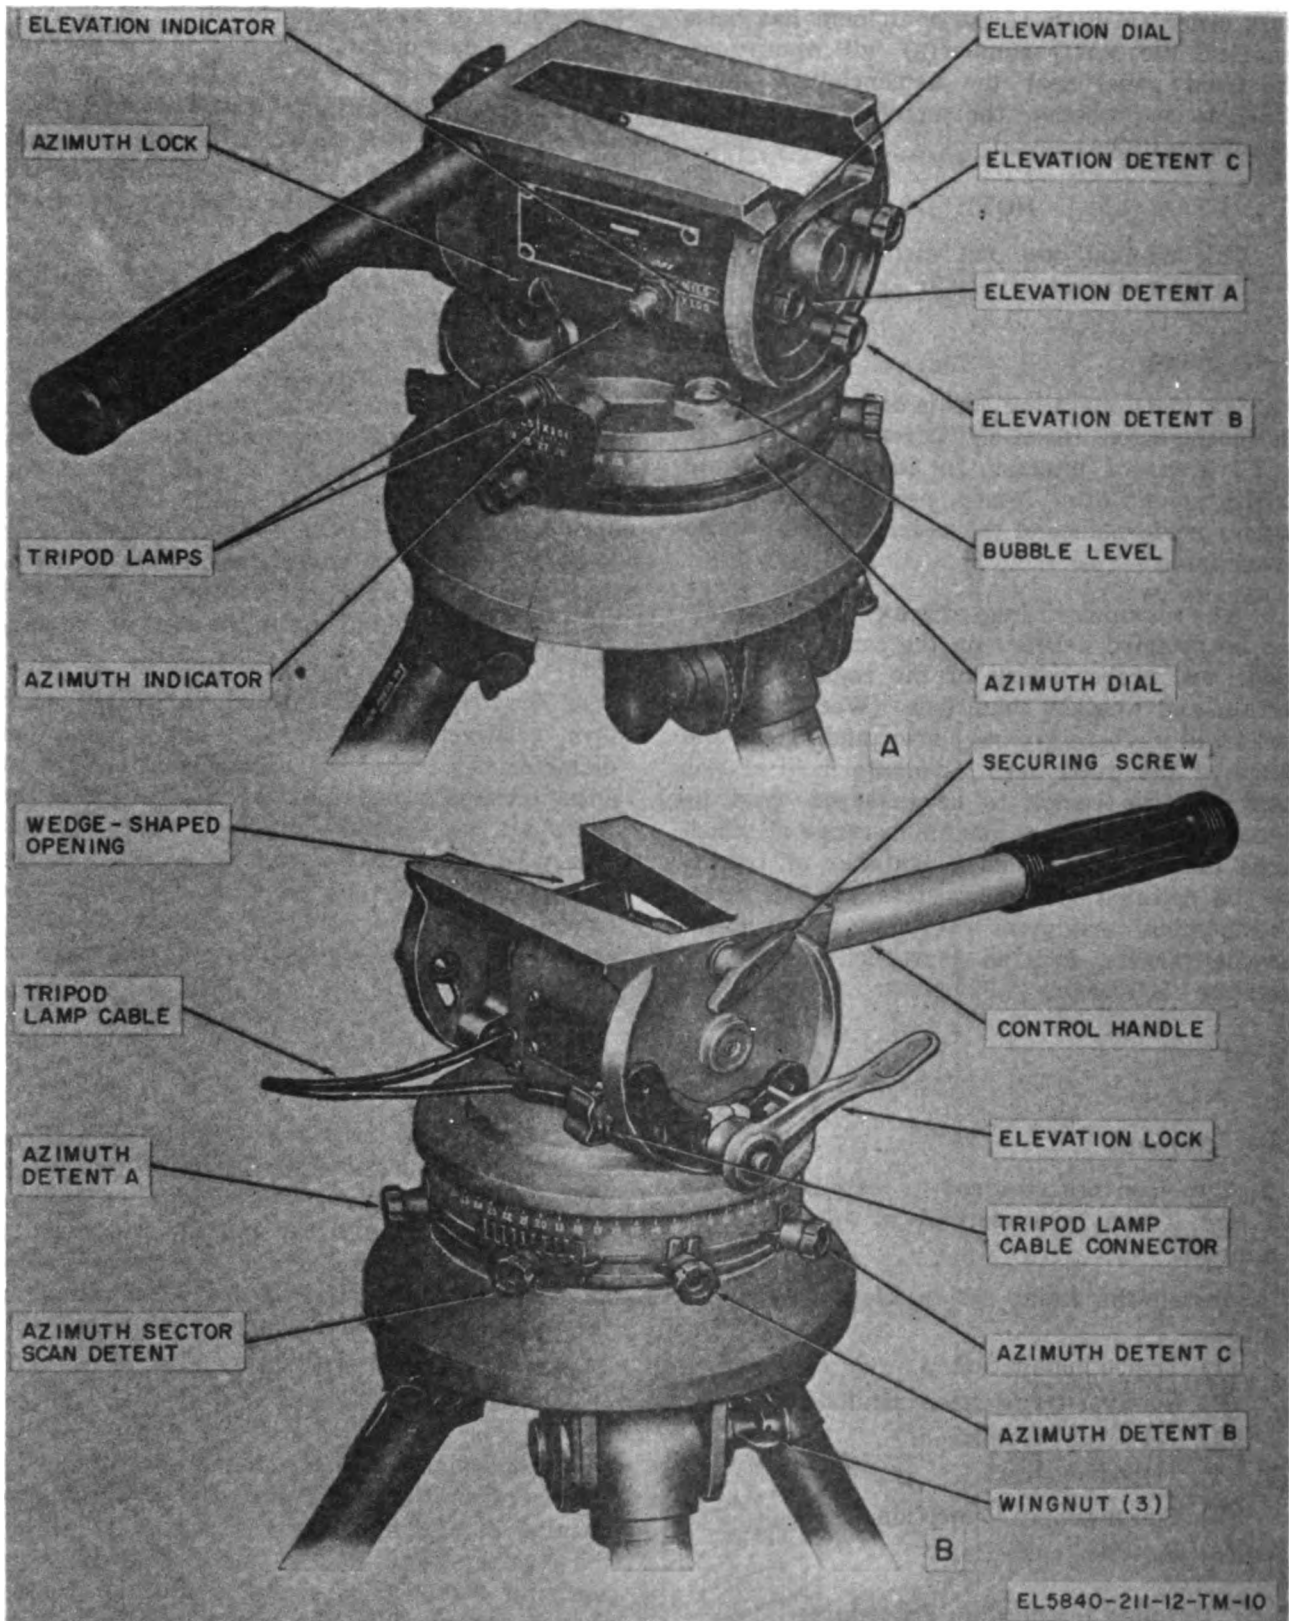
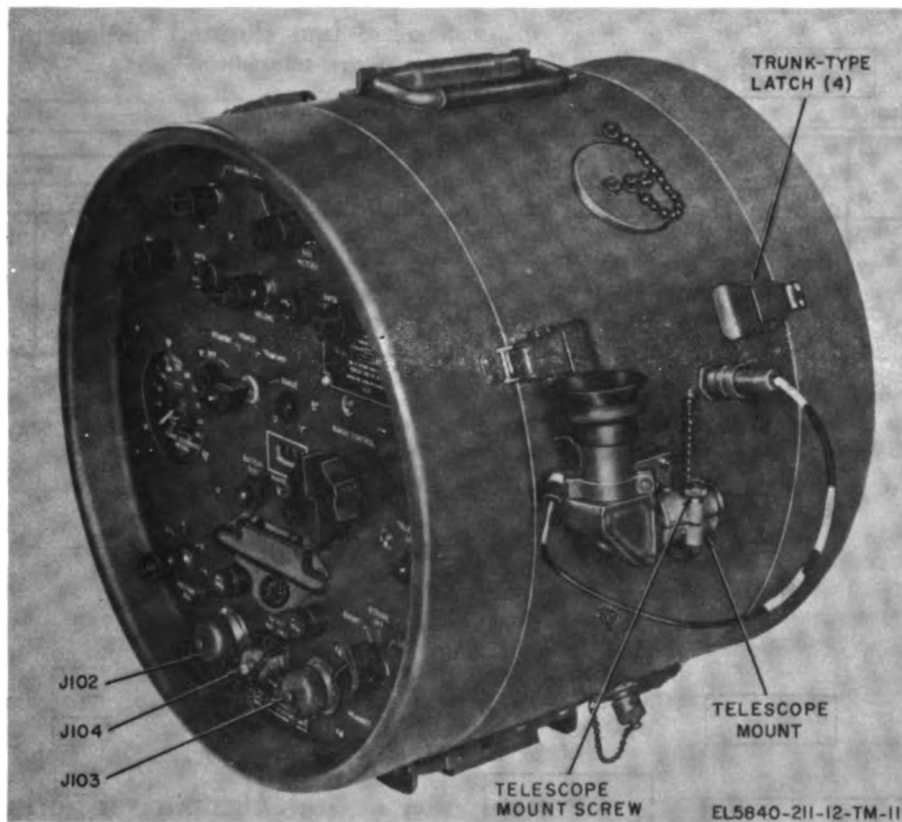
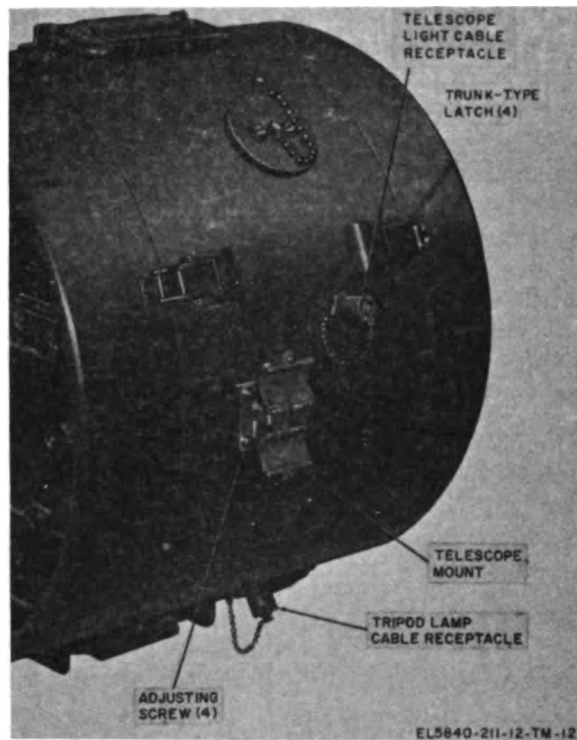

Figure 2-2. Tripod head.
Figure 2-3. Telescope installed in mount on receiver transmitter.
Figure 2-4. Telescope mount on receiver-transmitter.
b. *Receiver-Transmitter Installation*. Mount the receiver-transmitter on the tripod so that the wedge-shaped casting on the base of the receiver-transmitter slides into the wedge-shaped opening in the tripod head (B, fig. 2-2). Secure the receiver-transmitter in place by turning the securing screw (B, fig. 2-2) into the wedge-shaped casting. Plug the tripod lamp cable connector (fig. 2-2) into the tripod lamp cable receptacle on the receiver-transmitter (fig. 2-4).
c. Telescope Installation. Mount the telescope (fig. 2-3) on the side of the receiver-transmitter by placing the two sections on the telescope mount (fig. 2-4) around the barrel of the telescope and joining the two ends of the mount with the screw that is provided. Slide the telescope lamp (attached to one end of the telescope light cable) into its opening on the telescope. Plug the telescope light cable connector into the telescope light cable receptacle on the side of the receiver-transmitter (fig. 2-4).
d. Tripod Leveling. To level the radar set, loosen the leveling knob (fig. 1-3) under the tripod head. Adjust the tripod head until the bubble level (A, fig. 2-2) on the top of the tripod indicates that the tripod assembly is level. Tighten the leveling knob.
(fig. 2-2)
Asimuth sector scan detent	An azimuth sector scan detent (fig. 2-2) may be set and locked at any position on the azimuth dial. Nine individual detents make up the overall azimuth sector scan detent. Each individual detent allows overlapping coverage of 60-mil sectors. The overall azimuth sector detent is equivalent to an azimuth sector of 540 mils. Complete survey of the area in azimuth and range for which the azimuth sector scan detent is set can be accomplished by moving the receiver-transmitter step-by-step through each of the individual detents and range searching in either the long or short mode at each detent setting.
b. With the radar set in operation as described in a above, loosen the four telescope mounting screws that fasten the telescope mount (fig. 2-4). Adjust the telescope mount until the moving target is centered in the crosshairs of the telescope in the elevation plane.
- b. Loosen the azimuth detents (B, fig. 2-2) that secure the azimuth dial to the tripod head and rotate the dial until the known azimuth reading is lined up with the azimuth hairline on the azimuth indicator.